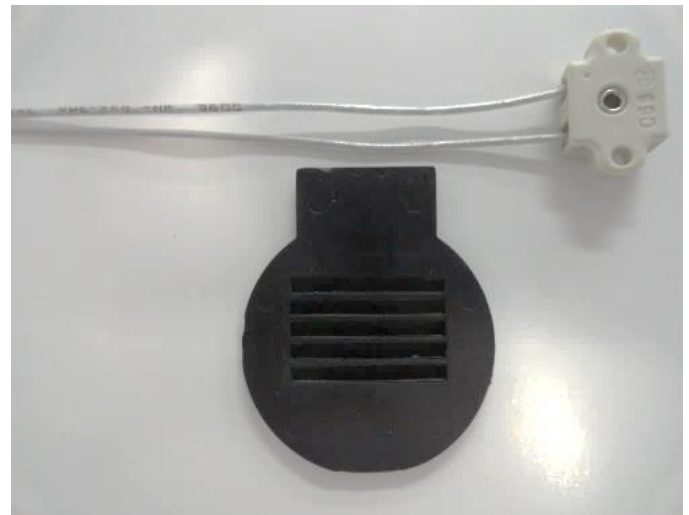

Figure 29 – J.C. Ritchey lamp house repair kit (photo courtesy James Ritchey)
A repair kit (see Figure 29) for the Olympus 20W lamp house is available from J.C. Ritchey Company, LLC (item 9 of Table 2). This kit, which includes a replacement for the back cover and a new G4 lamp socket, may be used to overhaul the LS20H, LS20H-M, or LS20H-M2 lamp houses. The replacement back is included in the kit since the original cover can be damaged if adequate care is not taken during disassembly of the lamp house. With care, however, the original back can be removed intact and reused. Soldering is required to install this repair kit.